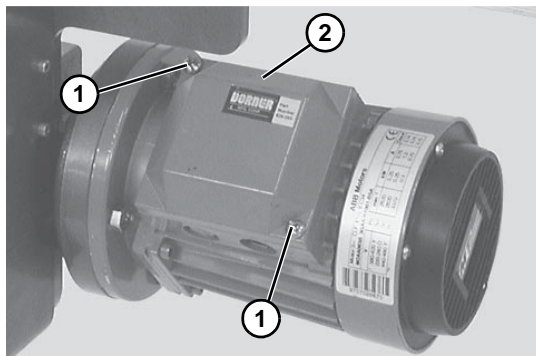

Figure 14
- a. Loosen terminal box screws (**Figure 14, item 1**) and remove cover (**Figure 14, item 2**).